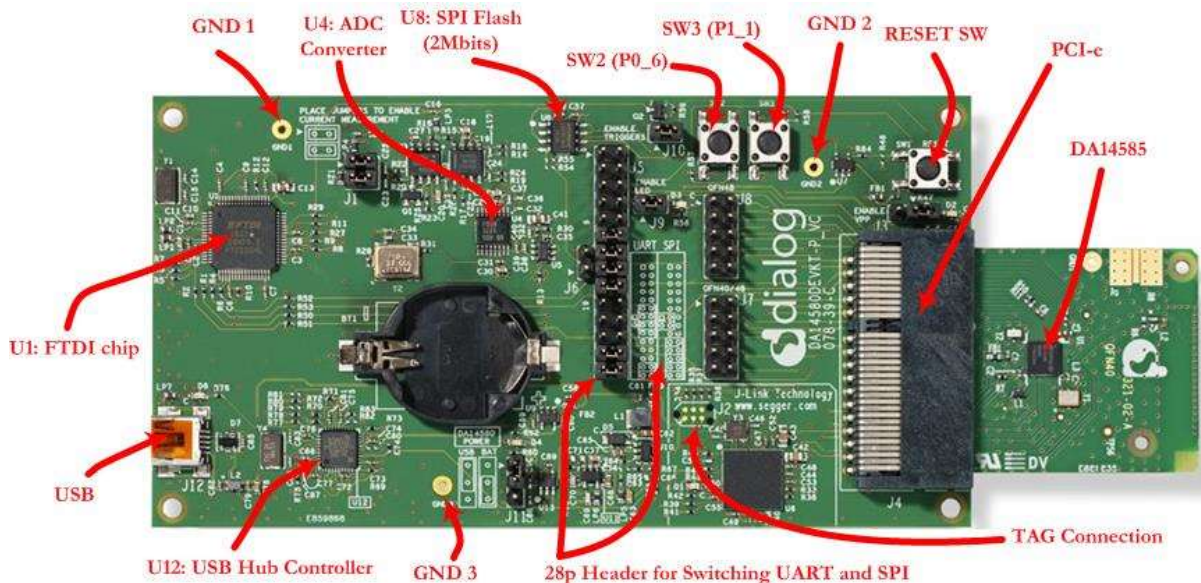

Figure 5: DA14585/586 Board Layout
The layout of the boards is displayed in **Figure 5**.
- **The ProDev Kit is connected to the host PC over the connector marked as USB (J12), as shown in Figure 5 using a standard mini-USB cable.**
1. Connect the ProDev Kit board to the PC via USB cable. The location of the board's USB port is shown in **Figure 5**.